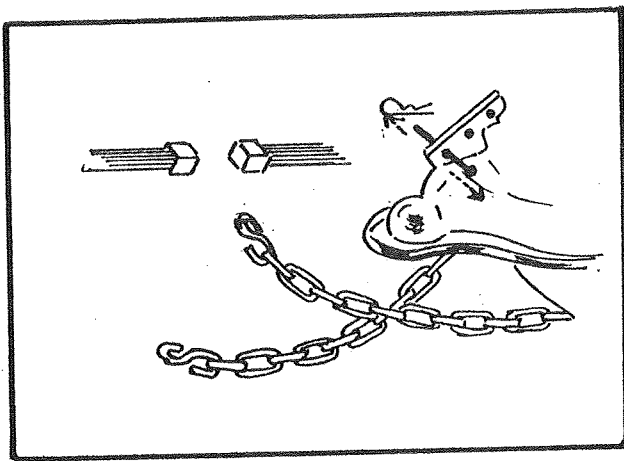

FIGURE 1
3. Disconnect electrical pigtail, breakaway switch and safety chains; raise the coupler release handle. See Figure 1.